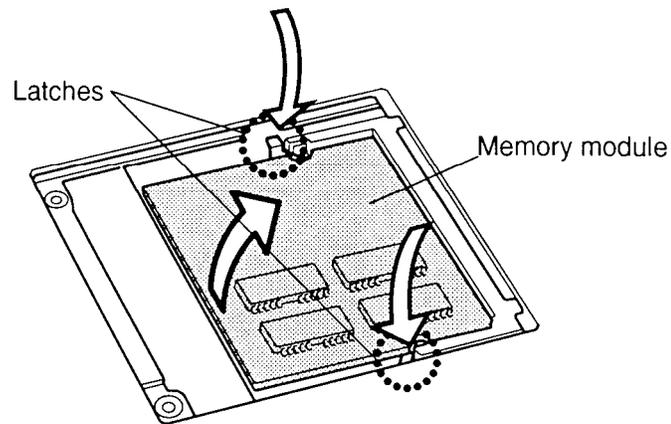

Figure 4-5 Removing the memory module
3. Fit the socket cover's latches into place and seat the cover (figure 4-5).